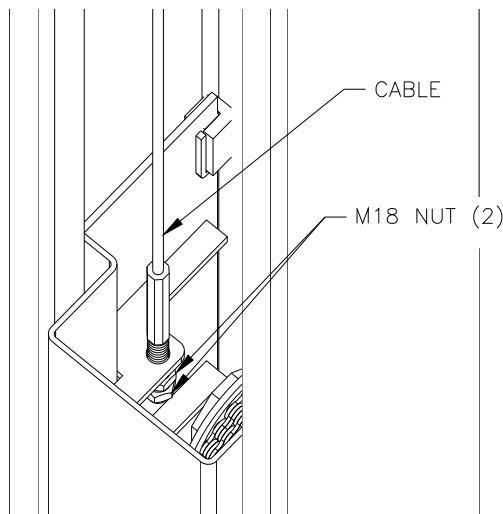

Fig 8-Cable Attachment
- 20) Raise the carriages so the hydraulic cylinder is out of the way, and sent into the locks. Using a wrench, tighten the nut on the cable, **Fig 8** and then use the second nut as a jam nut once cables are adjusted properly.